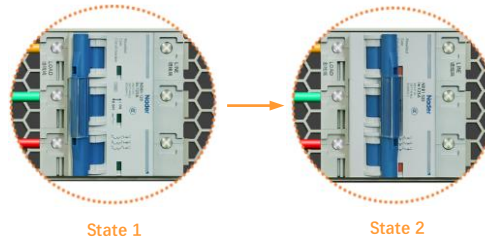

Figure 128 Power Module Power-On Diagram
Step 1: First open the rear door panel of the cabinet and check that the power module is supplied normally, whether the AC circuit breaker on the rear panel is switched to the right to the ON position, see Figure 128 status 2.